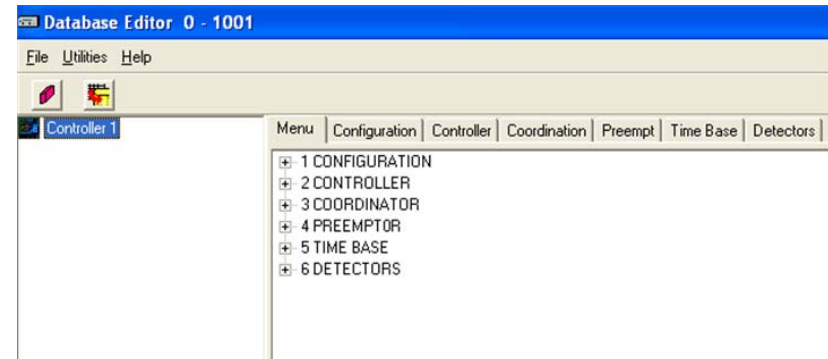

Figure 24 Controller Database Editor
- The Controller Database Editor appears as shown in Figure 24.